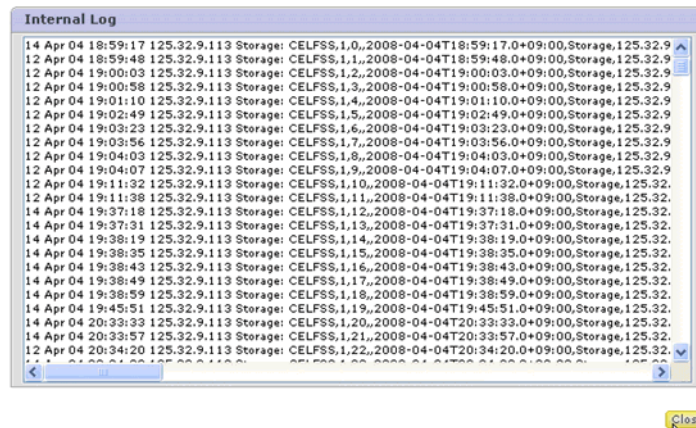

Figure 5-22: Internal Log window
6. Select the **Yes, I have read the above warning and wish to continue** check box and press **Confirm**. The Internal Log screen opens (see Figure 5-22).